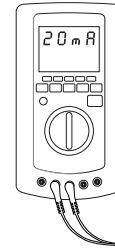

Fig.2
- 9) - Turn the potentiometer clockwise to its far right hand stop to adjust 20 mA (Fig.2).